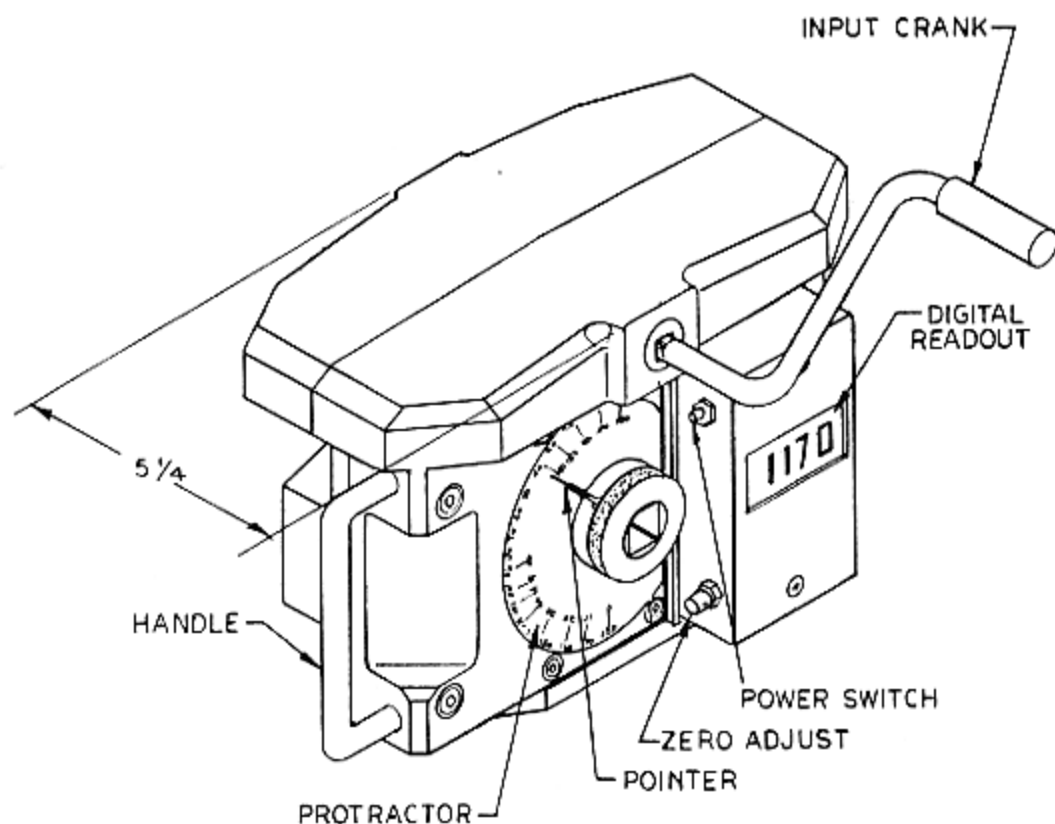

FIG. 1
This manual contains operating and maintenance instructions with a parts list for the Models DPT-2500 and DPT-2500R Electronic Torque Multipliers (National Stock No. 5120-00-482-2543). The CDI Multiplier (See Fig. 1) is designed and manufactured by Consolidated Devices, Inc., 19220 San Jose Avenue, City of Industry, California 91748, Telephone (818) 965-0668.